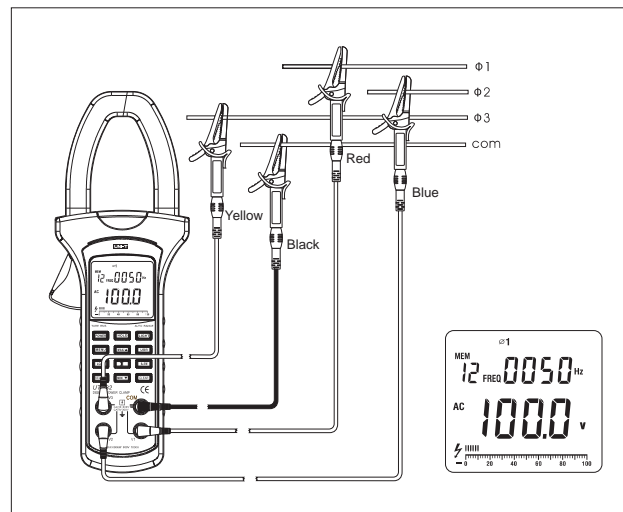

Figure 4
A. AC Voltage (main display) + Frequency (secondary display) Measurement (see figure 4)